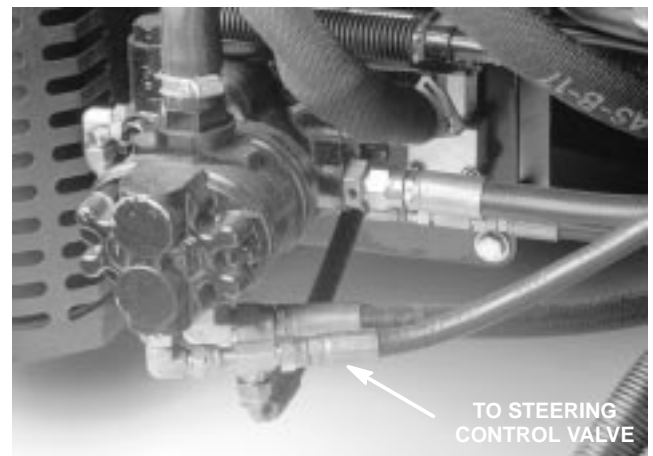

Figure 72
9. Disconnect hose assembly (31) and remove O-ring from T-fitting on the end of the gear pump P2 (Fig. 72). Allow hose to drain into a suitable container.
6. Connect hose assembly (31) with O-ring to T-fitting on the end of the gear pump (Fig. 72).